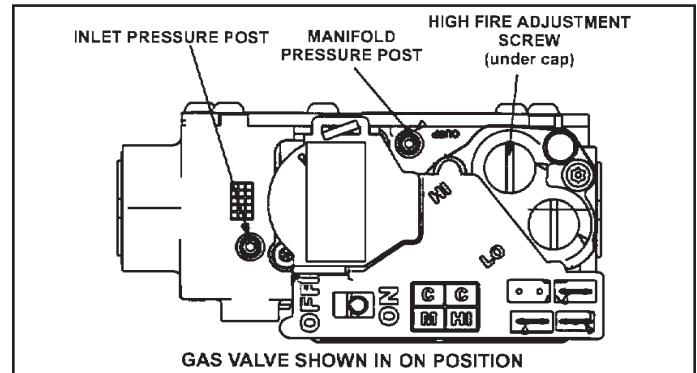

Figure 46. Gas Valve
6. Move gas valve switch to OFF. See Figure 46.
8. Move gas valve switch to ON. See Figure 46.
An inlet post located on the gas valve provides access to the supply pressure. See Figure 46. Back out the 3/32 hex screw one turn, connect a piece of 5/16 tubing and connect to a manometer to measure supply pressure. See Table 15 for supply line pressure.
1. A manifold pressure post located on the gas valve provides access to the manifold pressure. See Figure 46. Back out the 3/32 Hex screw one turn, connect a piece of 5/16" tubing and connect to a manometer to measure supply pressure.
6. Repeat on high fire and compare to value given in Table 15. If necessary, make adjustments. Figure 46 shows location of high fire and low fire adjustment screws.